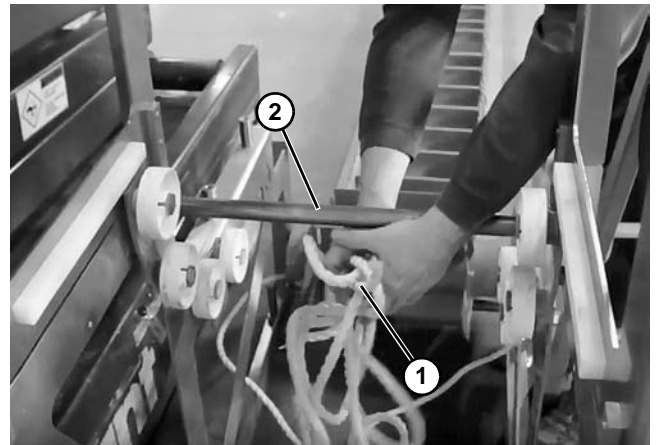

Figure 55
3. Pull the rope (Figure 55, item 1) into the conveyor frame (Figure 55, item 2).